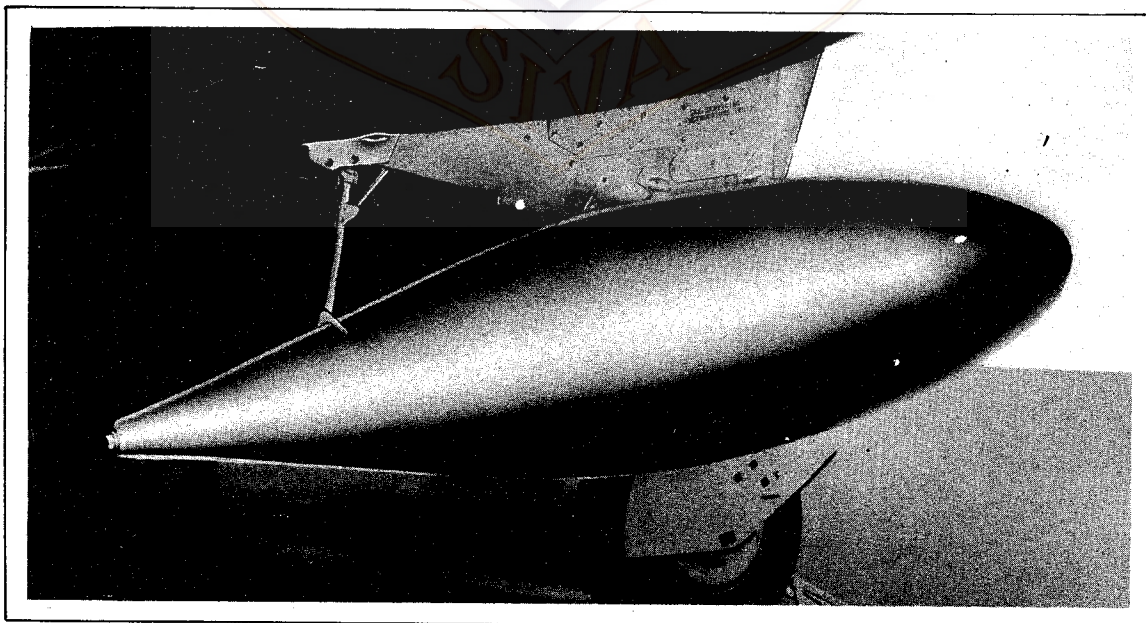

Figure 7—Wing Tank Installation
(1) GENERAL.—The main fuel supply consists of 550 US (458 Imperial) gallons of fuel carried in two self-sealing tanks located under and forward of the cockpit and two internal wing tanks. (See figure 4.) This supply can be supplemented by using external tanks hung from the airplane belly and each wing. (See figure 7.) Fuel is supplied to the carburetor by means of an engine-driven pump, assisted
The tanks are hung from standard army-type bomb shackles (figure 7) mounted in the belly and each wing, just outboard of the landing gear main struts.